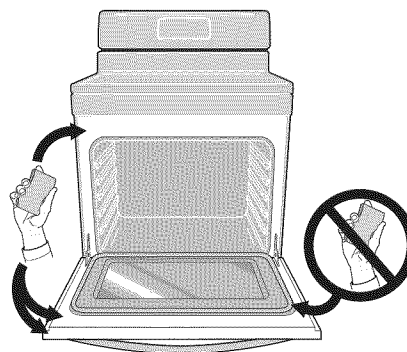

Figure 39: Do not clean the oven door gasket
12. Wipe oven cavity and bottom. Do not clean oven door gasket (Figure 39).